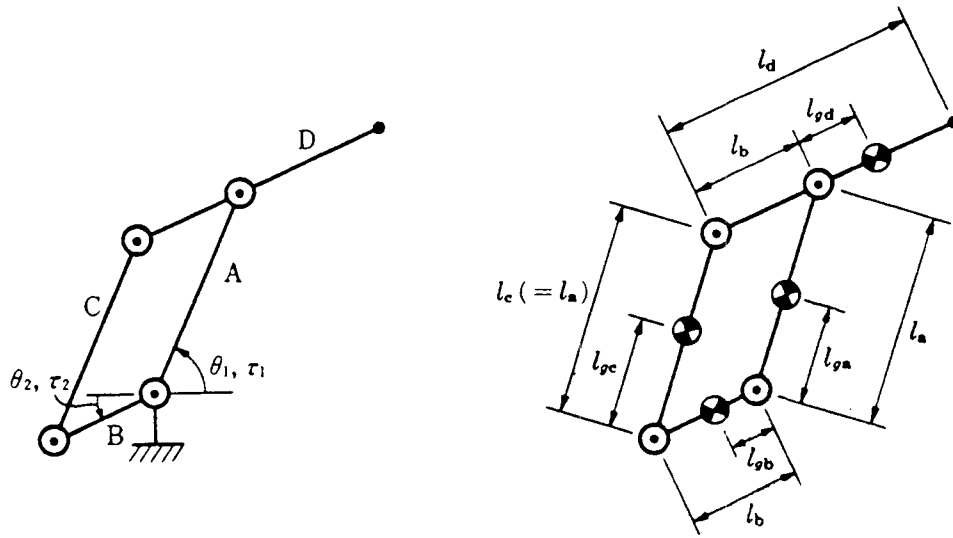

Fig. 2 A parallel two link manipulator
2. Derive the equations of motion of the parallel drive two-link manipulator shown in fig. 2. Assume that the torque τ_1 is applied between the base and link A, and torque τ_2 is applied between the base and link B and that gravity acts vertically downward.